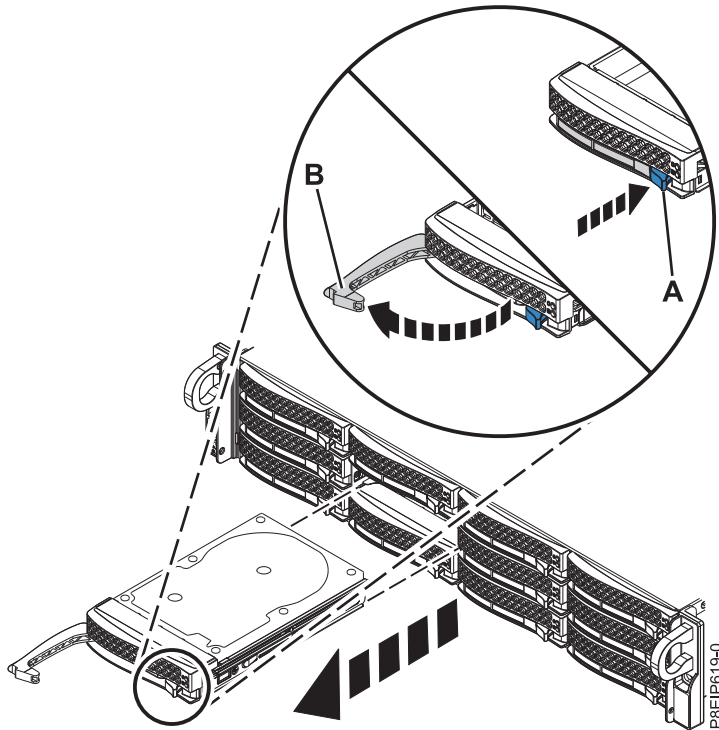

Figure 66. Removing a drive
- Unlock the drive bay handle (**B**) by pushing in the handle release (**A**) as shown in Figure 66 on page 105. The handle (**B**) snaps out towards you. If the handle does not snap out all the way, the drive